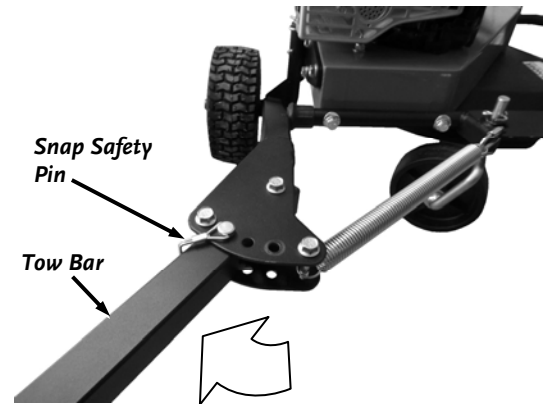

Figure 22
3. Move the Tow bar to the desired offset position, align the holes and reinstall the Snap Safety Pin (Figure 22).